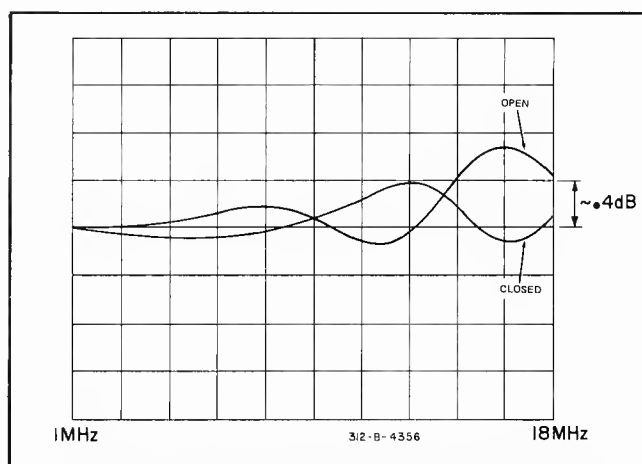

Figure 5-18. Relative Effect of A33C10 with all Other Controls Set Correctly.
f. The effects of adjusting each control are illustrated in Figures 5-18 through 5-22. Before adjusting any of the controls, study each figure to see if any of the waveforms resemble the frequency response curve on the oscilloscope.
h. After comparing the frequency response display to Figures 5-18 through 5-22, adjust the corresponding controls for the best response.